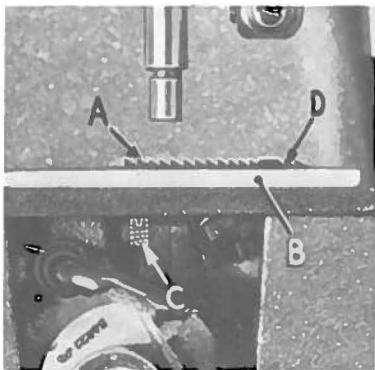
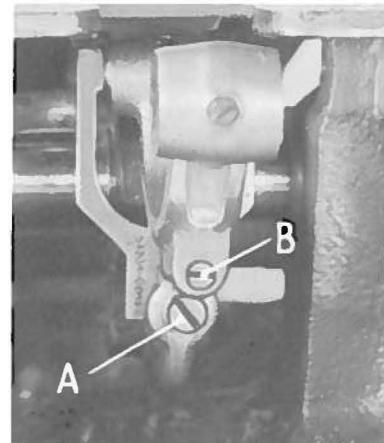

Fig. 11
Fig. 12
Set the feed dog (A, Fig. 11) with tips of teeth parallel with and project their full depth above the throat plate (B) at high point of travel. Adjust feed dog support screws (C) under back of feed dog to maintain this setting. These screws are also used to level the feed dog across the line of feed.
To tilt feed dog in line of feed and move front tooth (D, Fig. 11) down, turn screw (A, Fig. 12) clockwise and screw (B) counterclockwise. Reverse direction of two screws to raise front tooth. Normal setting is all teeth level with throat plate when feed is at high point of lift.